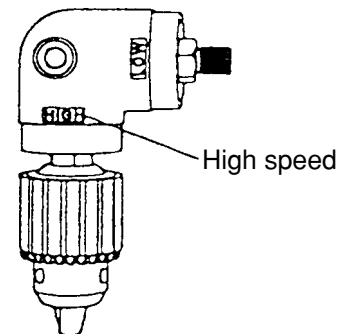

Fig. 10
- To operate the angle unit at high speed, attach the chuck to the angle unit spindle at the side marked "HIGH" and secure the locking screw. At this setting, the drilling speed is increased to about 150% and the drilling torque decreased to about 70%. (Fig. 10)